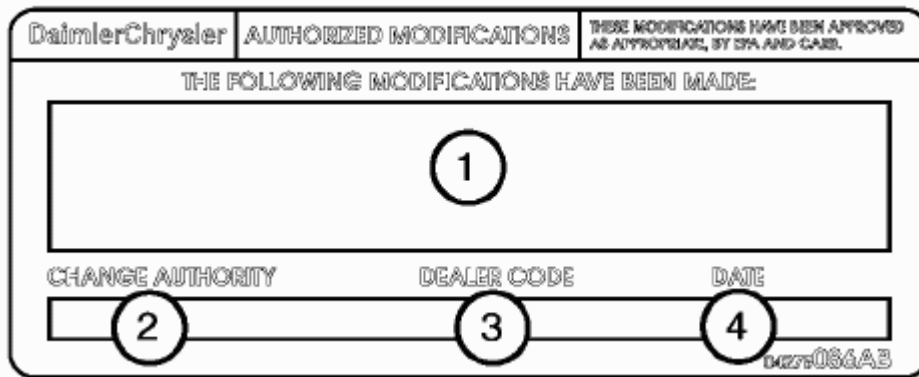

FIGURE 1 - AUTHORIZED MODIFICATION LABEL
7. Type the necessary information on the "Authorized Modification Label" p/n 04275086AB and attach near the VECI label (Fig. 1).